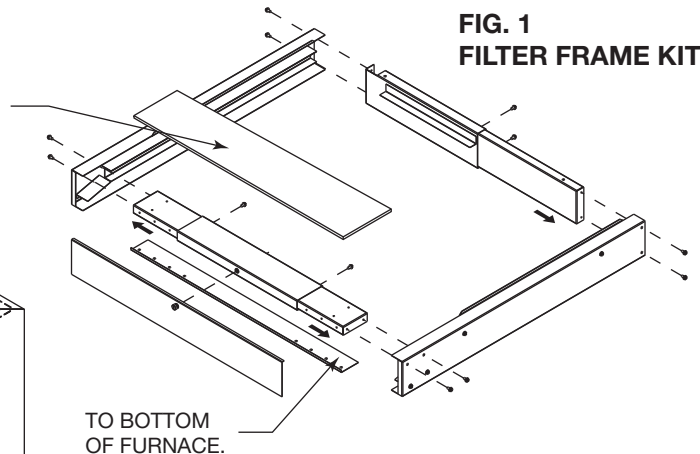

FIG. 1
1. Using the screws provided, assemble the filter frame kit as shown in **Figure 1**.
2. **NOTE:** The width of the filter frame is adjustable by moving the front and rear slides as shown in **Figure 1**. This is so the same filter frame can be used for all three furnace return air variations. The front door is shipped to fit **24 1/2"** cabinets. If adjustment for the smaller cabinet is required, the front door and supplied filter must be cut to fit. Cut equal amounts from each end of the door so the front screw will still line up with the holes.